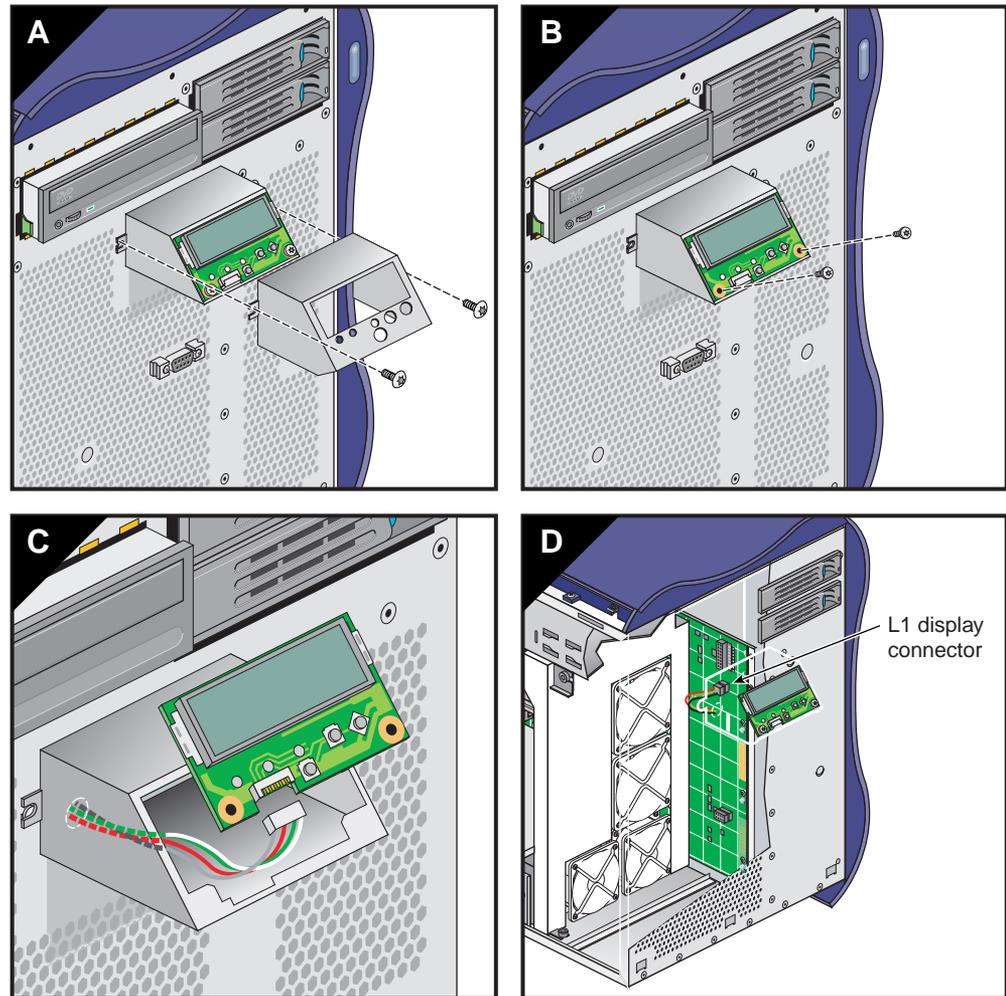

Figure 3-33 Removing the L1 Display Cable
2. Lift the L1 display bracket upward until the hooks on the bracket clear the holes in the enclosure (see Figure 3-33).
3. Carefully remove the two screws that mount the L1 display board to the bracket. Then, grasping the display board by the edges, separate the display board from the bracket (see Figure 3-33).
4. Gently disconnect the L1 display cable from the display board. Place the L1 display board in a secure location (see Figure 3-33).
6. Carefully push the L1 display cable into the hole in the front of the enclosure. Then remove the cable from inside the enclosure (see Figure 3-33).